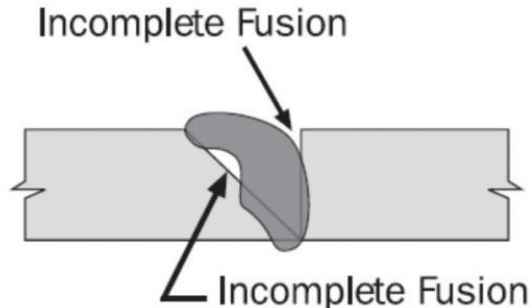

Figure 8. Diagram of Incomplete Fusion
**Incomplete Fusion** is the lack of merging between the molten filler metal and the base metal or the previous weld (Figure 8). We can see incomplete fusion where the weld metal meets the sidewall in a fillet weld or groove weld. Many times we will see it where the new weld does not completely fuse into the previous weld, creating a weak spot where the two join.